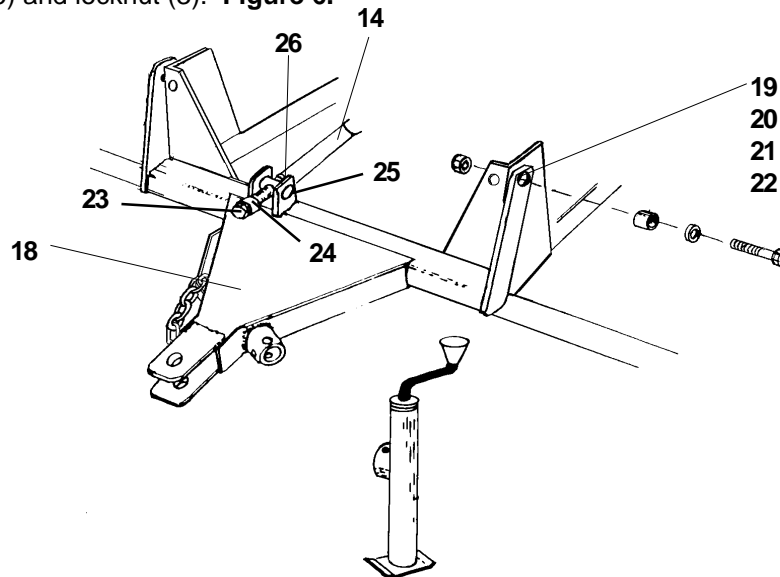

FIGURE 7. Tongue Assembly
5. Insert tongue (18) between lugs on front of deck. Install bushings (19) in Main Frame lugs and install bolts (20) with flatwasher (21) against bushing (19). Install locknut (22). **Figure 7.**
6. Slide bushing (24) over screw assembly (23). Insert trunion (25) through vertical lugs on tongue (18). Insert screw assembly (23) through trunion (25), install Jamnut (26) and thread screw assembly (23) into level rod. **Figure 7.**